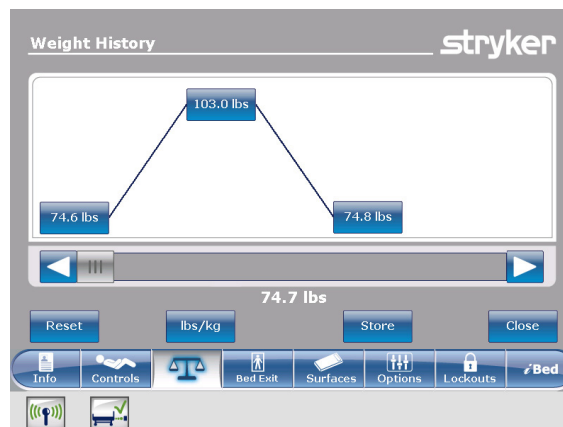

Figure 28: Weight history
To reset the stored weight histories, tap **Reset** (Figure 28 on page 50).
To change the displayed measuring unit, tap **lbs/kg** (Figure 28 on page 50).
To store the current weight reading, tap **Store** (Figure 28 on page 50).
To return to the **Scale** screen, tap **Close** (Figure 28 on page 50).
1. Tap a weight value in the weight history screen (Figure 28 on page 50). Each value displays the time and date of the measurement (Figure 29 on page 50).